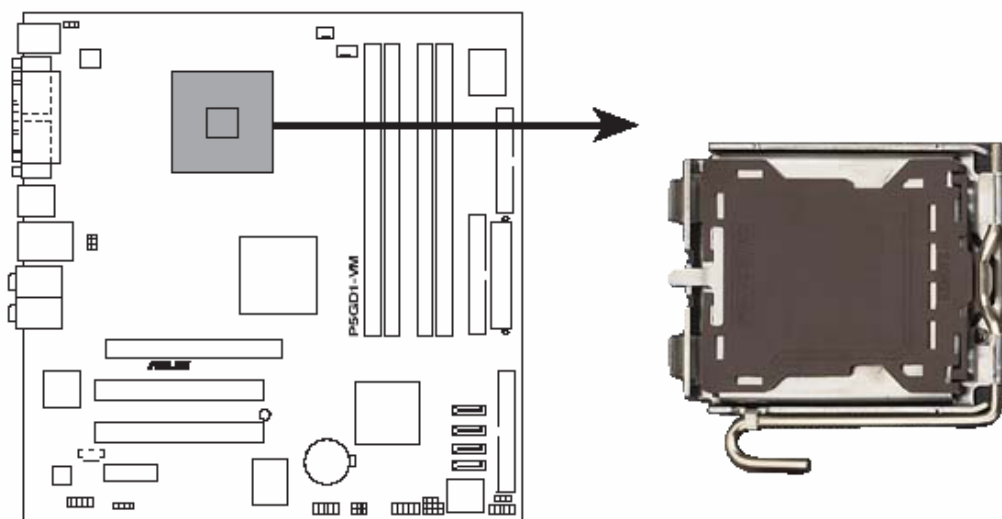

Figure 15: Socket 775
3. Locate the CPU module by referring to Figure 15 if necessary